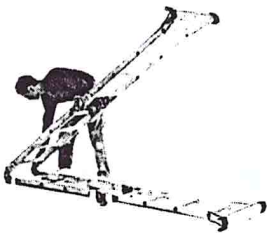

FIGURE 3.
- 4) Unlock top hinges. Raise one extended side to first position and lock both hinges as shown in figure 3.